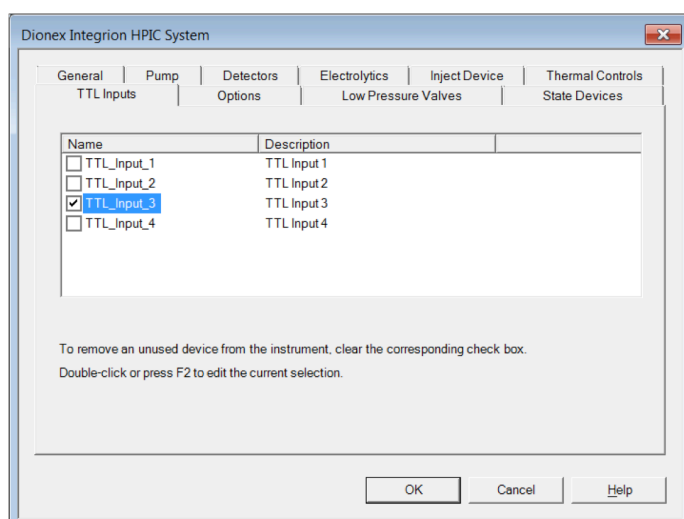

Figure 3. Dionex Integrion TTL input
4. Open the TTL Inputs tab, and ensure that the designated TTL input is checked (Figure 3).